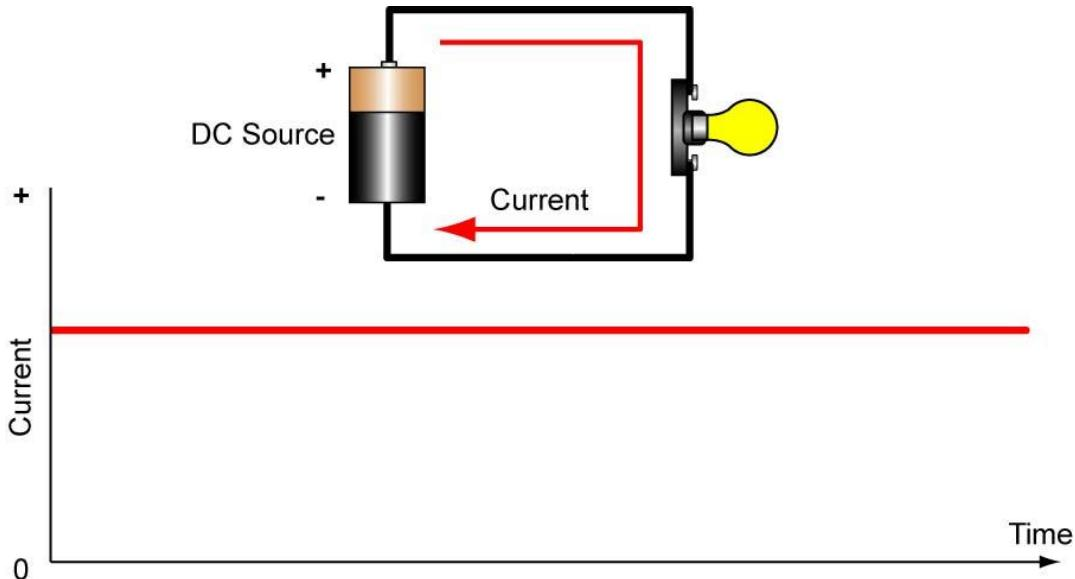

Figure 18: Direct Current Flows in One Direction
- **Direct Current (DC):** Direct current is current that flows in one direction, whether steady or in pulses. Direct current has definite fixed polarity as in a battery. The positive terminal of a battery is labeled by the + symbol and the negative terminal is labeled by the - symbol (Figure 18).